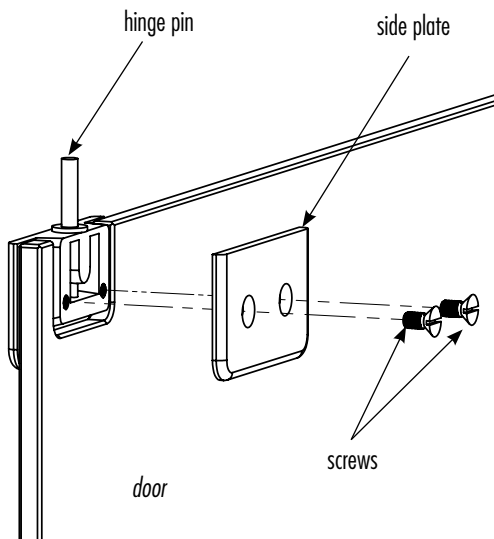

figure 37
1. Locate the top hinge and remove the side plate by loosening the two screws (fig. 37).
2. Place the hinge into the top cutout on the door so the screws will be facing into the shower and install the side plate. Tighten the screws until the hinge is secure. Make sure the hinge is centered in the cutout and that the screws are facing into the shower (fig. 37).